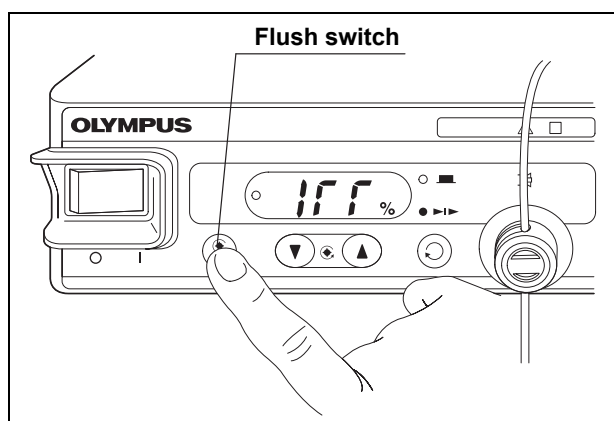

Figure 5.6
2. Press the flush switch of the irrigation unit and confirm that cooling water flows from the sheath tip. As it may take a few seconds before the cooling water flows, press and hold the switch until you observe water being discharged from the tip (see Figure 5.6). While “Irr” is flashing on the irrigation level setting indicator, the high-speed irrigation pedal does not function.